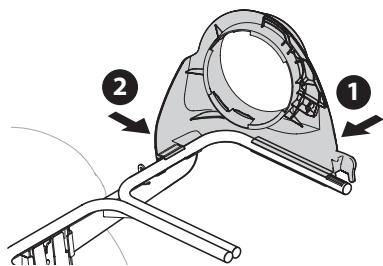

Figure 7
- Snap the upper chute support (731-17091A) in place by first clipping the side portion onto the hanger assembly rail (1). See Figure 7.
- Snap the front side of the upper chute support to the rail (2), as shown in Figure 7.